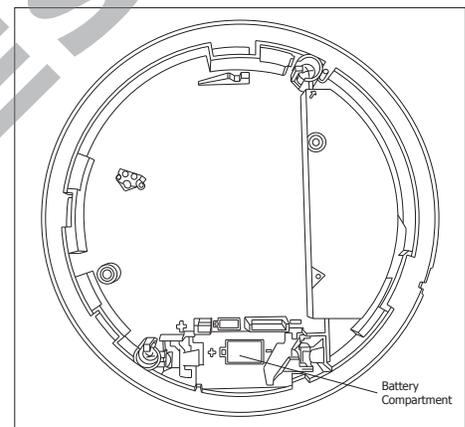

Figure 6: Battery Compartment
3. Rotate the detector cap approximately 15 degrees to the left and gently lift off. See Figure 6.